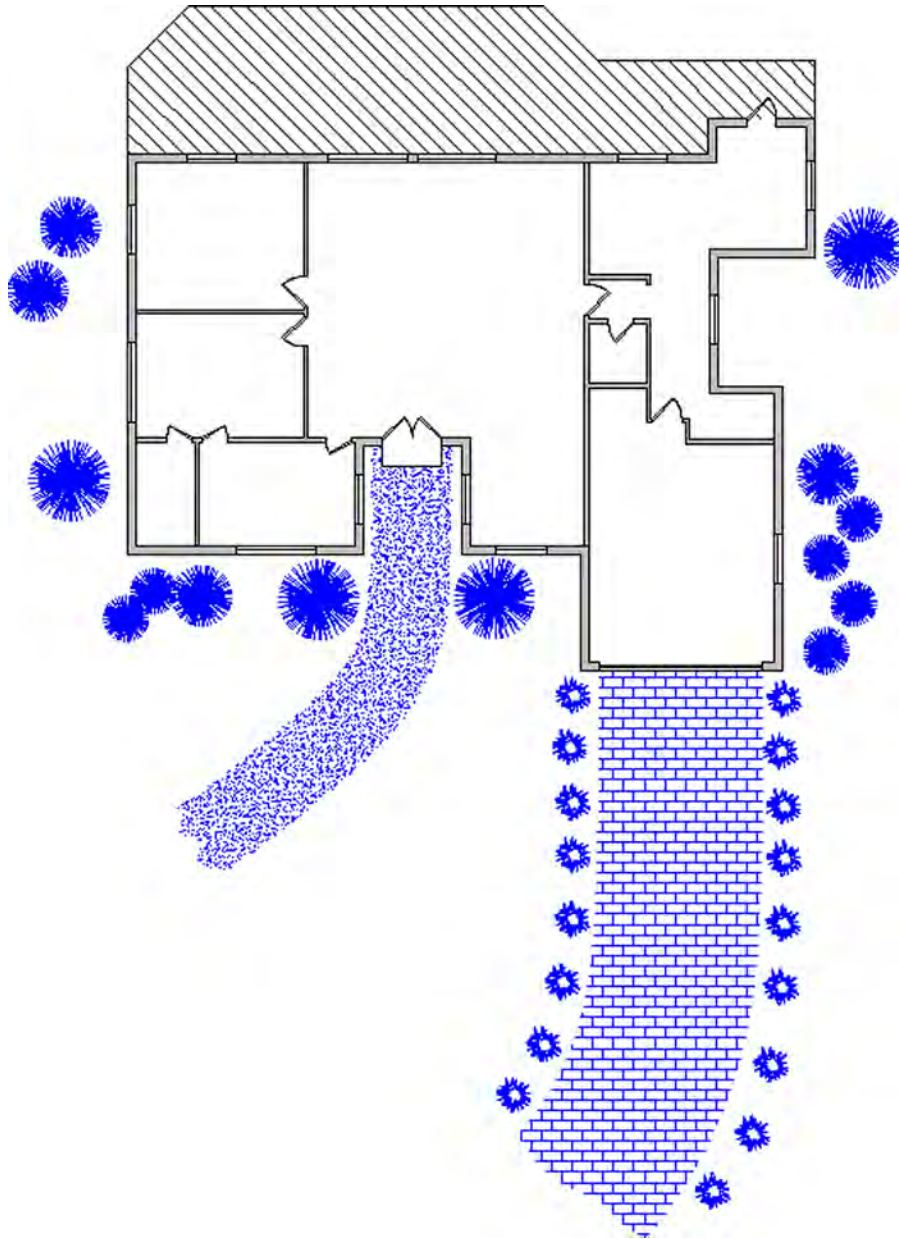

FIGURE 17.16
Step 2. Create the landscaping plan as seen in Figure 17.16. You need to create plines for the borders of the driveway and the walkways. Then, after adding the hatch patterns (Sand and Brick), erase some or all of the plines. For the trees and shrubs you need to call upon the xline and spline.